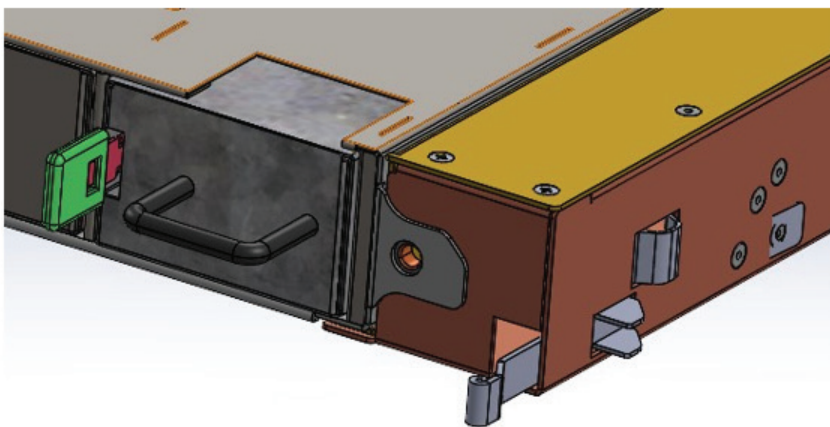

Figure 3.7 - Fasten with provided M6 mounting hardware through front hole
- 2. Insert the Power shelf into the front of the Adapter Tray, resting the bottom of the Power shelf on the tray as shown in Figure 3.7.